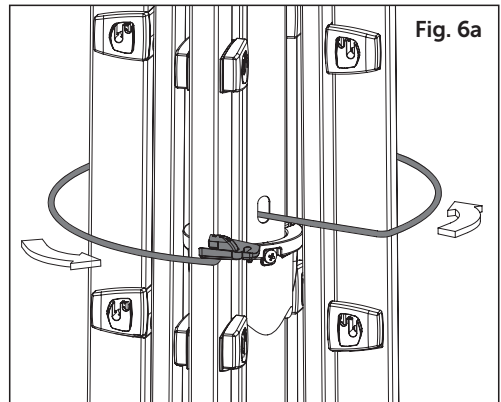

Fig. 6a
2. Wrap retainer around the hoist to capture all four arms (Fig. 6a).